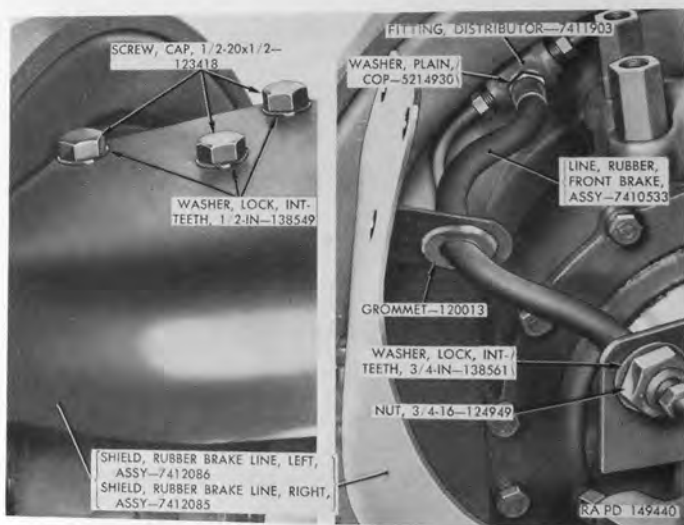

Figure 159. Front brake rubber line installed (left side shown).
- (1) *Front.*—Remove three cap screws and lock washers attaching brake line shield (fig. 159) to steering knuckle support and swing shield to one side. Disconnect axle brake line assembly from rubber brake line assembly at bracket on outer end of axle housing, remove end of rubber brake line assembly from bracket and pull line through bracket on shield; then unscrew rubber brake line assembly from distributor fitting at backing plate.